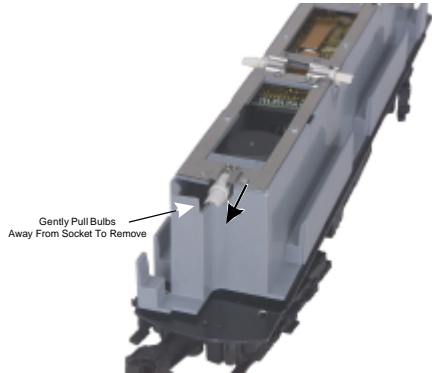

Figure 8
2. Pull out the bulb(s) you need to change. (See figure 8)